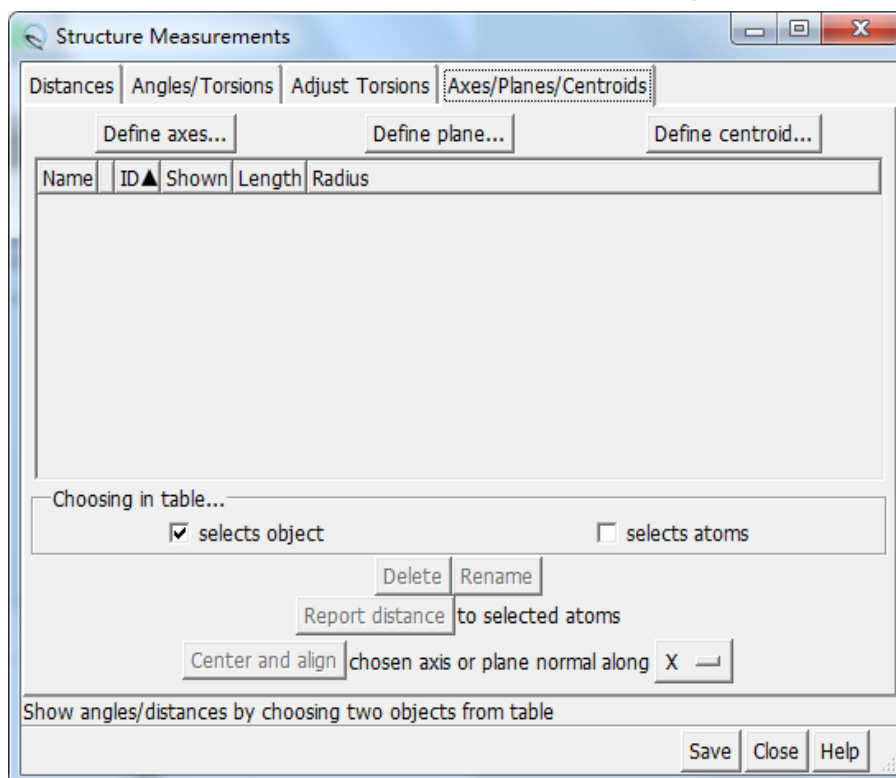

Figure 16. Define centroid.
3. Click Axes/Planes/Centroids, then click “Define centroid” (see Figure 16):